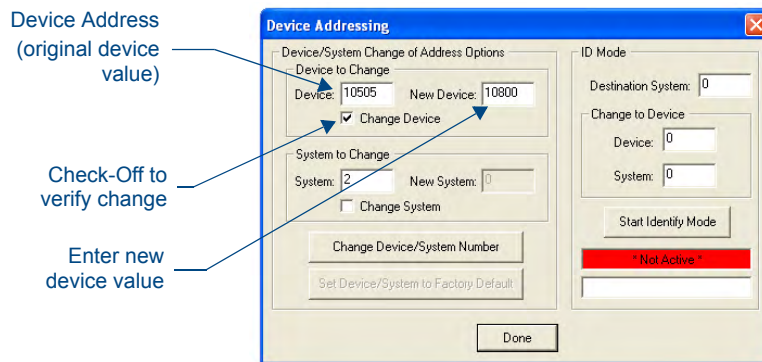

FIG. 36 Device Addressing dialog (changing the device value)
2. Access the Device Addressing dialog (FIG. 36) by either one of these two methods: